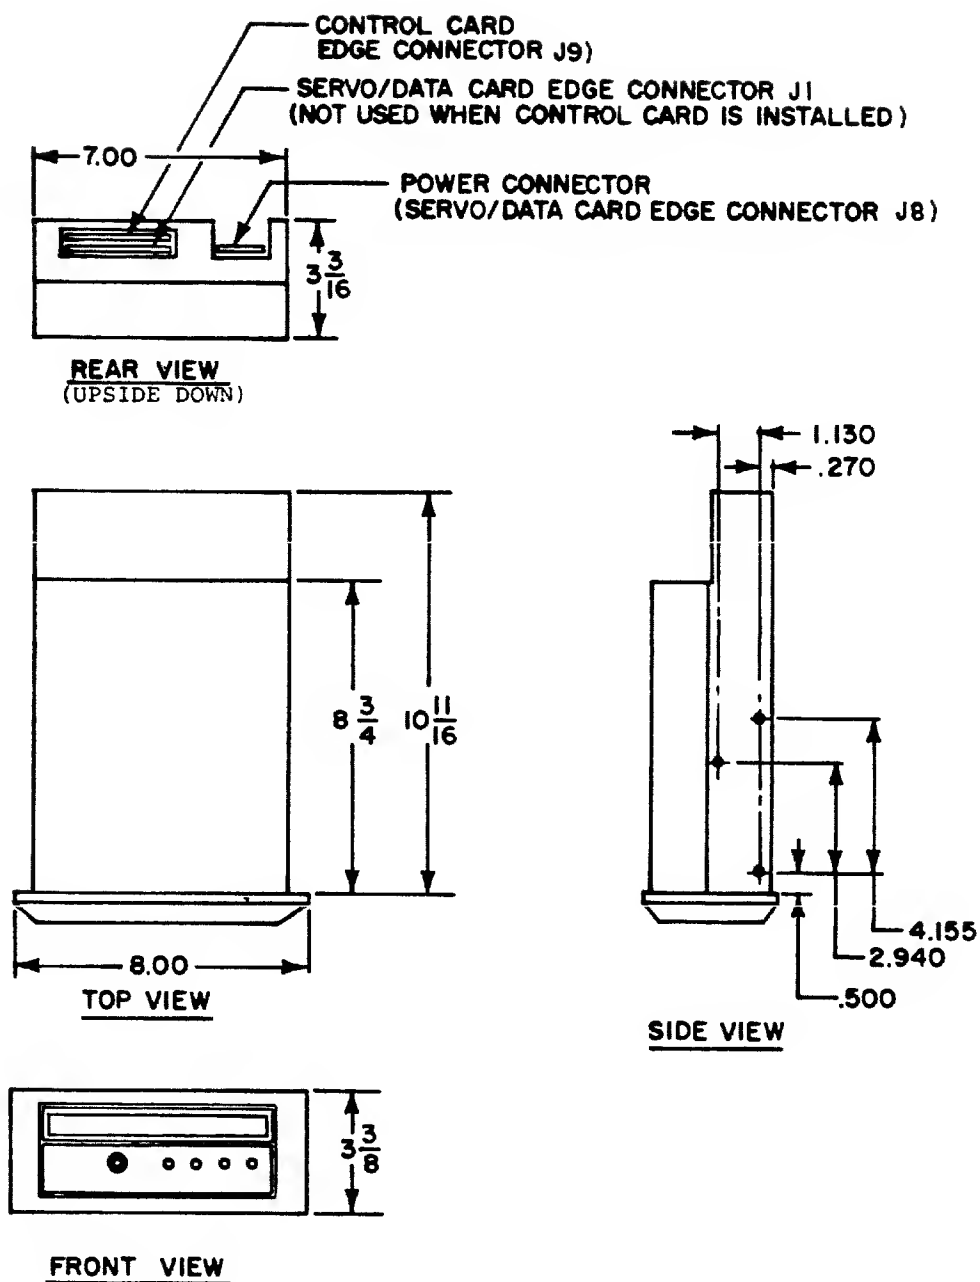

Figure 2-2. Outline Drawing
The tape drive has been designed for installation in user equipment in a variety of ways. They include mounting to the back of a front panel, from the front of a front panel and to a side panel or brackets. The tape drive will operate in any position. Caution must be exercised, however, when installing it overhead. During operation the data cartridge is locked in place, but once the UNLOAD button is pressed, it is free to slide out. If unrestrained, both operator and data cartridge could be impaired. The overall dimensions of the tape drive are shown in figure 2-2. Detail installation procedures are given in the following paragraphs.
- b. Connect I/O and power connectors (fig. 2-2).
Option 2PC is standard. It includes both the control board and the servo/data board. The control, status, and data lines are connected to the control board edge connector (fig. 2-2, rear view) using a 3M #3415 connector and a #3365/50 flat cable. The length of the cable should not exceed 15 feet. As far as possible, ribbon cable should be used for signal I/O connectors. Odd numbered pins should be signal ground on both sides of the signal cable. If single wires are used, for I/O connectors,
Option 1PC includes a servo/data board only. The control, status, and data lines are connected to the servo/data board edge connector (fig. 2-2, rear view) using the 3M #3415 connector and a #3365/50 flat cable.